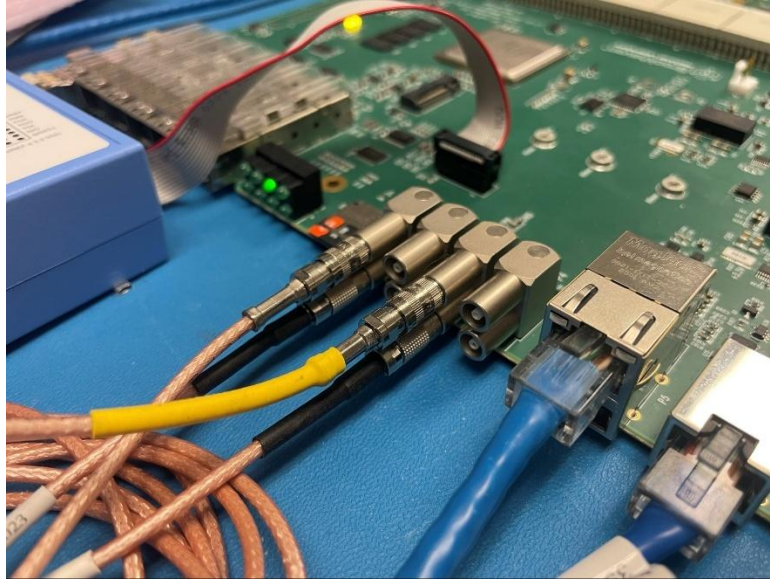

Figure 3: LEMO IN0 connected to OUT0 and IN1 connected to OUT1. For testing, all LEMO outputs should be connected to their respective LEMO input.
- 3.9.1. Connect LEMO cables to the LEMO I/Os (Figure 3).